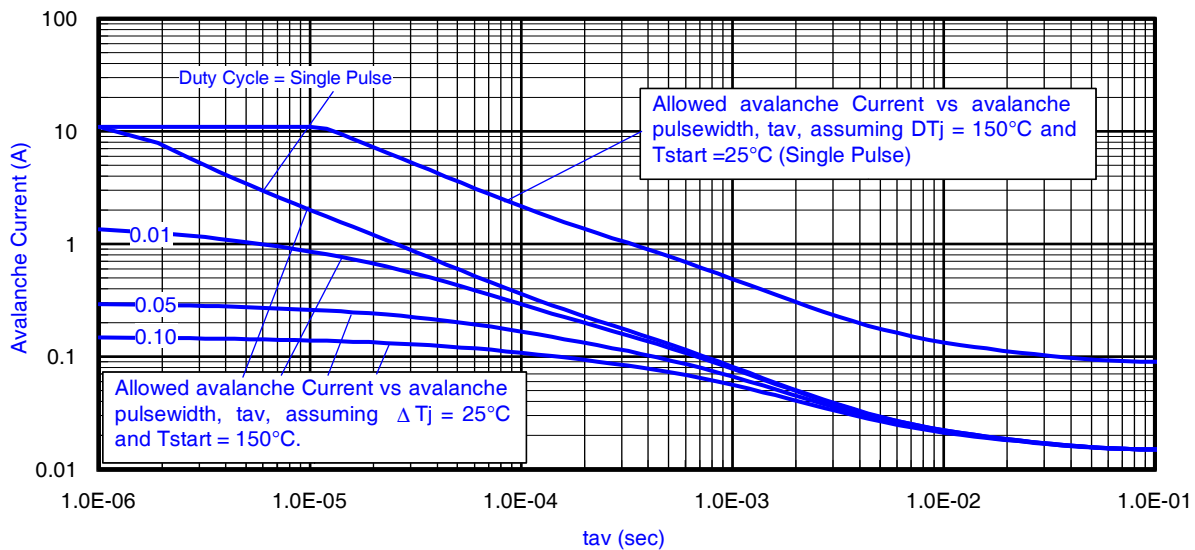

Fig 16. Typical Avalanche Current vs. Pulsewidth
Notes on Repetitive Avalanche Curves , Figures 16, 17:
7. ΔT = Allowable rise in junction temperature, not to exceed $T_{j\text{max}}$ (assumed as 25°C in Figure 16, 17).